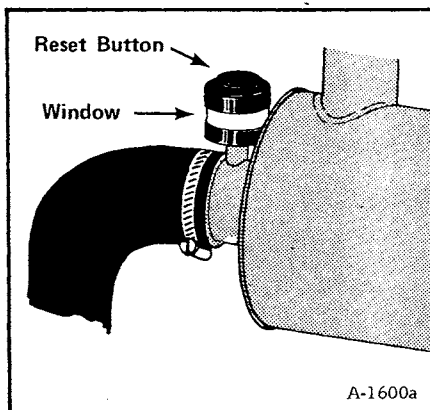

Fig. 1-6 Condition Indicator
(1) Remove dirt from the dust cap as often as needed.
(2) Remove the element only when it needs replacement. (When the red ring shows on the indicator.) (Fig. 1-6).
(3) When changing the element, be sure to remove dirt from the housing. Check that the gasket is in place.
(4) If the air cleaner has been damaged, inspect and make replacement of parts as needed.
(5) Inspect condition of system: